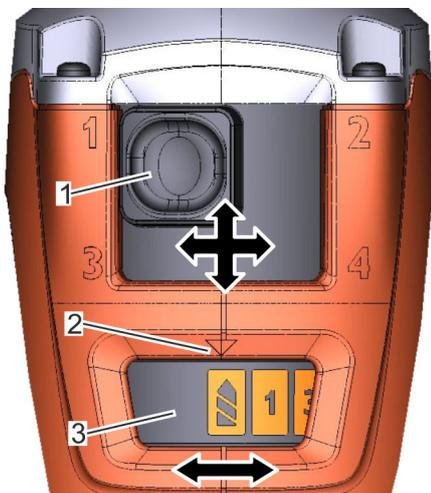

Fig. 30: Gear setting and setting levels
3. Set gear (Fig. 30/1) 4 to 1 (manual gearbox setting).
4. Set setting level (Fig. 30/3) 1 to 15 (electronic setting).